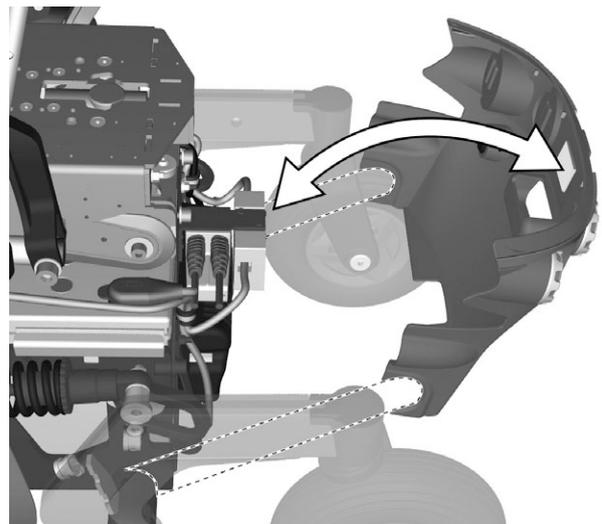

Figure 9. The chassis rear cover.
Assemble the rear chassis cover on to the chassis by positioning the covers on the axles of the link arms. See fig. 9.
3. Fasten it on the hook and loop fastener by pressing on rear edge of the chassis cover (with a click). See fig. 9.